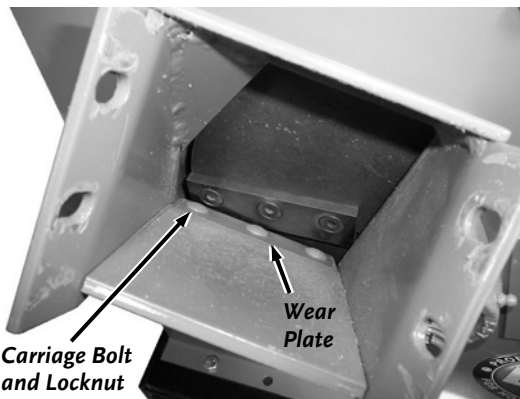

Figure 40
1. To adjust the Wear Plate Gap, loosen the three Nuts on the Carriage Bolts with a 7/16" wrench just enough so the Wear Plate will move but still have a slight resistance. Now you can slide the Wear Plate up or down (in or out) to achieve the correct gap setting (**Figure 40 and 41**).